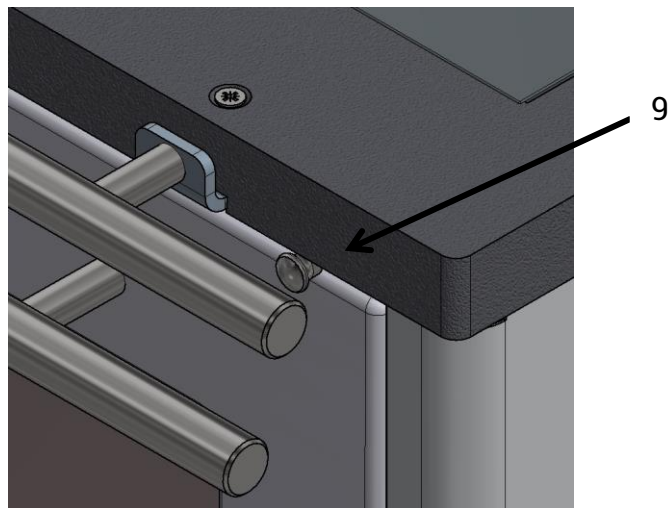

Figure 4
Moving of the warming flap is made by activating the button (Fig. 4, item 9) located above the oven door. It is used for shortening the paths of flue gases during firing.